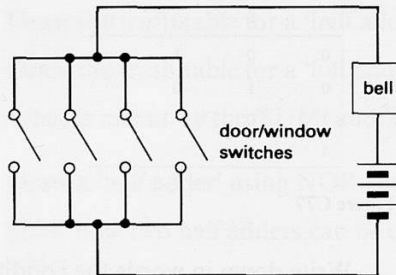

Figure C78
**31(R)** Figure C78 shows a crude burglar alarm system. If any of the door or window switches are closed, the alarm sounds.